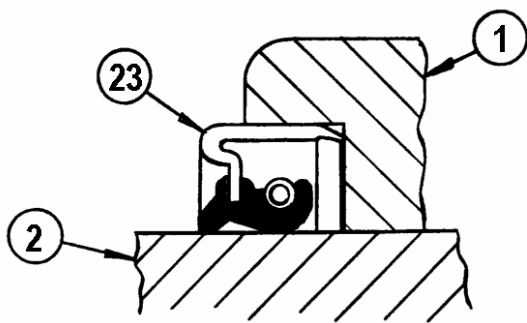

Figure 10-1A
13. Install a new lip seal (Key 23) into the lower end of the valve housing. The lips of the seal should point toward the outside. (Refer to Figure 10-1A).